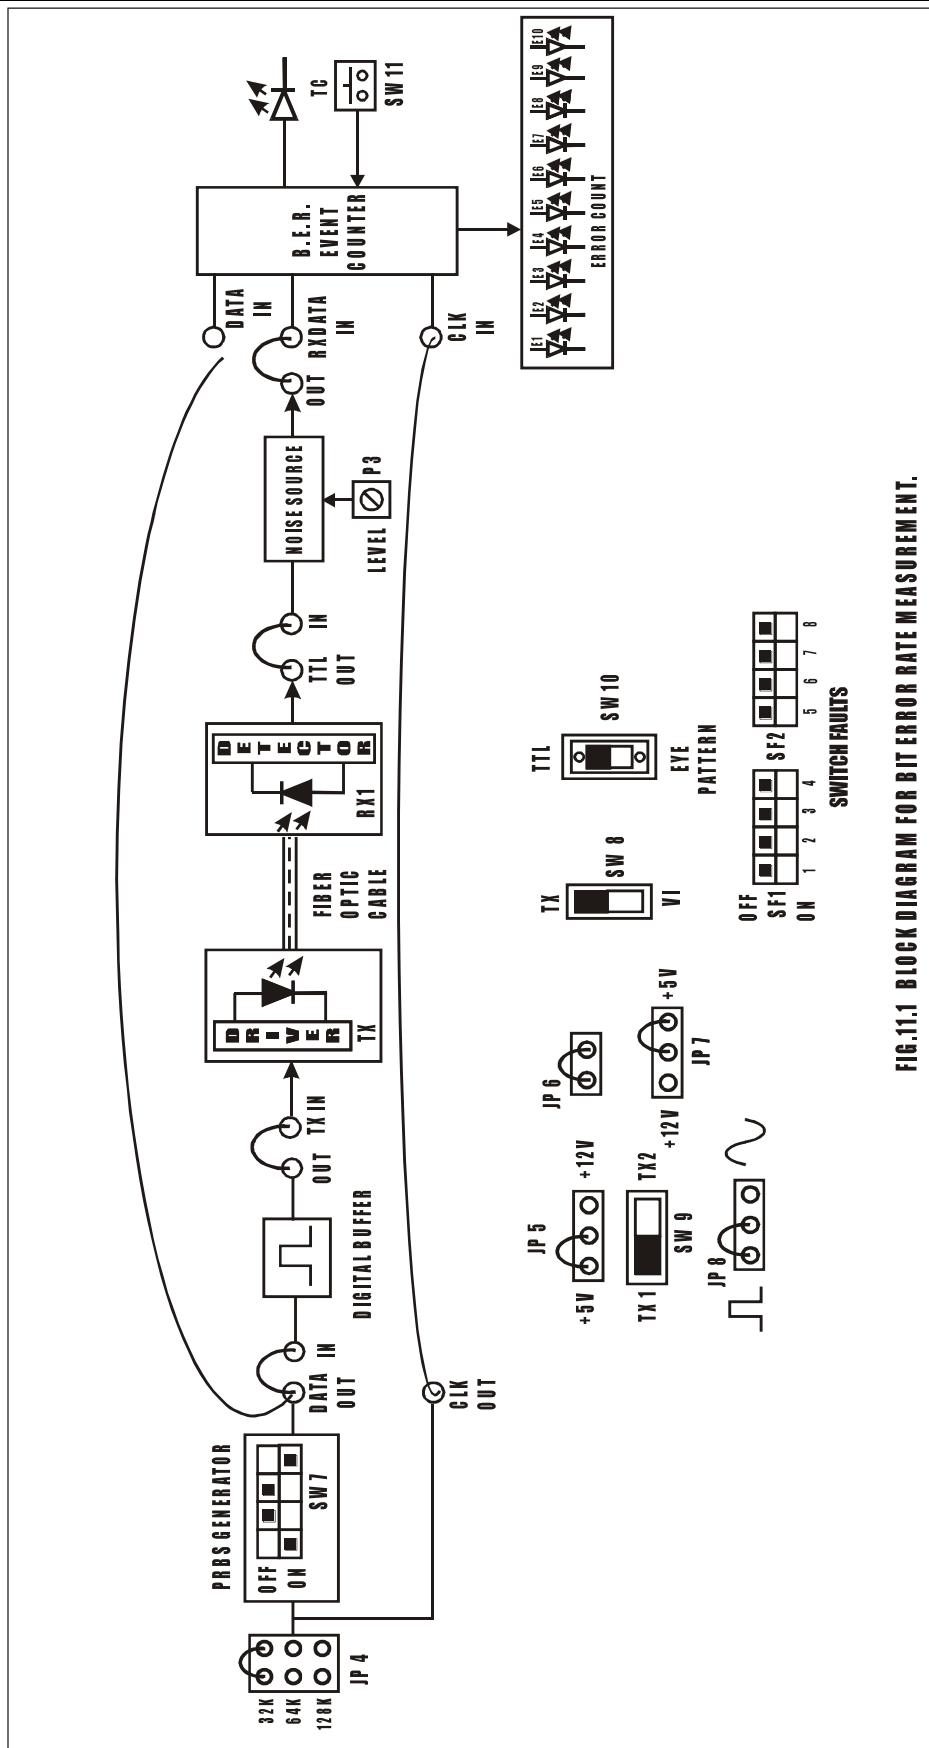

FIG.11.1 BLOCK DIAGRAM FOR BIT ERROR RATE MEASUREMENT.
- Make connections as shown in fig.11.1. Connect the power supply cables with proper polarity to FO-A-P Kit. While connecting this, ensure that the power supply is OFF.
- Keep **PRBS** switch **SW7** as shown in fig.11.1 to generate PRBS signal.